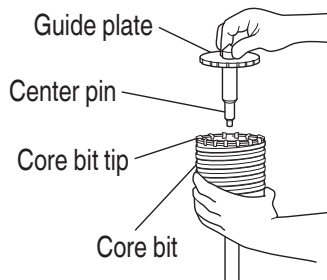

Fig. 23
- (4) Engage the guide plate with the core bit, and turn the guide plate to the left or the right so that it does not fall even if it faces downward (**Fig. 23**).